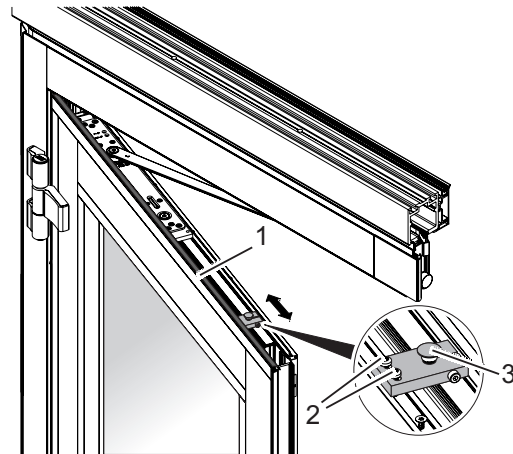

Fig. 31: Moving the bolt carrying plate
1. Remove the rubber seal (Fig. 31/1).
2. Loosen the screws (Fig. 31/2).
3. Move the bolt carrying plate (Fig. 31/3) until the mushroom head reaches into the holding fixture.
4. Tighten the screws (Fig. 31/2).